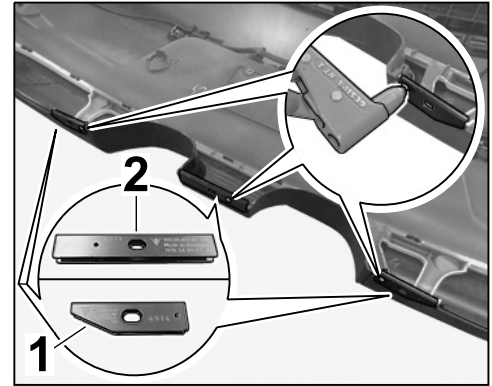

Figure 33
- 7.5 Secure center retaining strip ⇒ *Figure 33 -2-* and two retaining strips at the outside ⇒ *Figure 33-1-* to the rear apron using rivets.